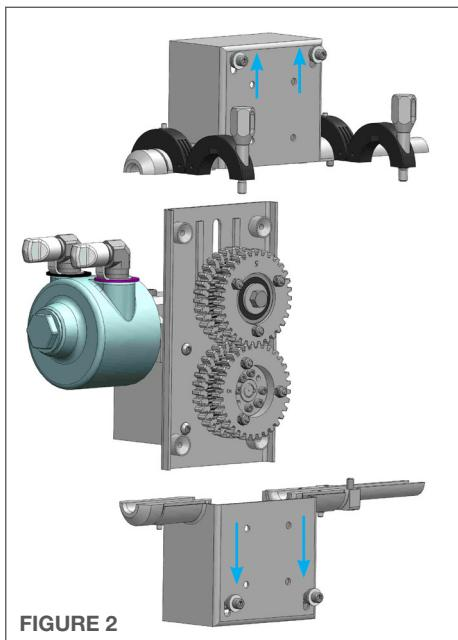

FIGURE 2
The Helix Drive on the BTC-100 Assembly, feeds the hose through the rest of the BTC-100 Assembly and provides 50lbs of pressure to push the chosen tool into the boiler tubes. The step-by-step process on how to change and/or setup the Sprocket and Helix Hose feed are shown on pages 12 through 15. The same process is followed to change Helix Hose sizes and their respective Gearpacks, and Split Bushings. (**Figure 2**)
2. Slide the Upper and Lower Cover Plates off in opposing directions and set all parts aside. (**Figure 2**)
2. Find the keyway and slide the drive gear onto the shaft. Install the two 10-24 Socket head cap screws into the two positions shown in **(Figure 2)** and tighten until the Sprocket Flange engages securely.